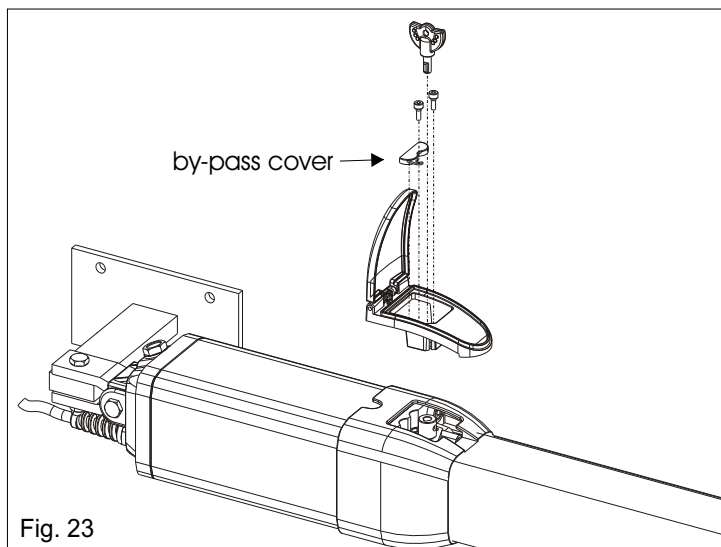

Fig. 23
- 1) Release the operator (as in Fig. 23 of page 11)
- Release the unit (as in Fig. 23 of page 10)
ATTENTION: the mounting of the plastic release must be effectuated as shown in fig. 23 **only and exclusively** after having finished all the installation operations, mounting of the rod cover and calibration of the by-pass valves.